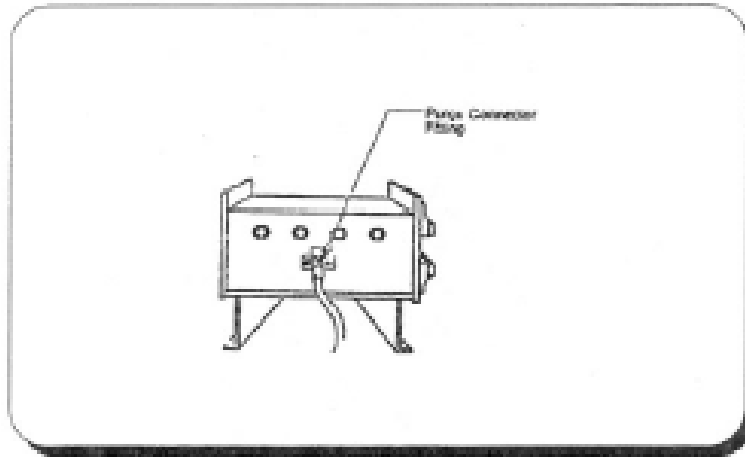

Figure 5-2. *Purge Inlet Fitting Location (Rear of Oven)*
5. On the rear of the oven assembly, loosen the knurled purge inlet nut securing the purge inlet connector to the rear of the oven. See Figure 5-2. Remove the O-ring from the quartz nipple.